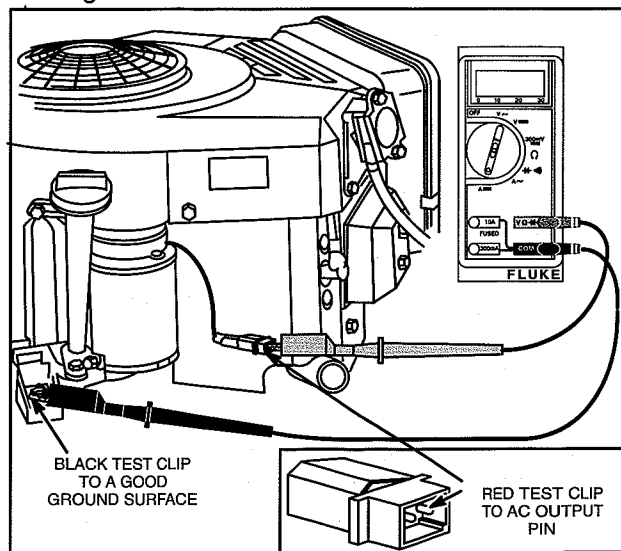

Fig. 16 – Testing AC Output
4. Attach RED test lead clip to AC output terminal, Fig. 16.